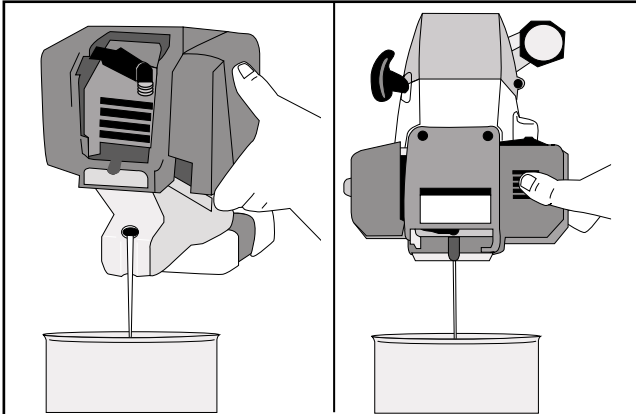

Fig. 18
2. Pour the oil into a container by tipping the trimmer in a vertical position (Fig. 18). Be sure to allow ample time for complete drainage. Dispose of oil properly.